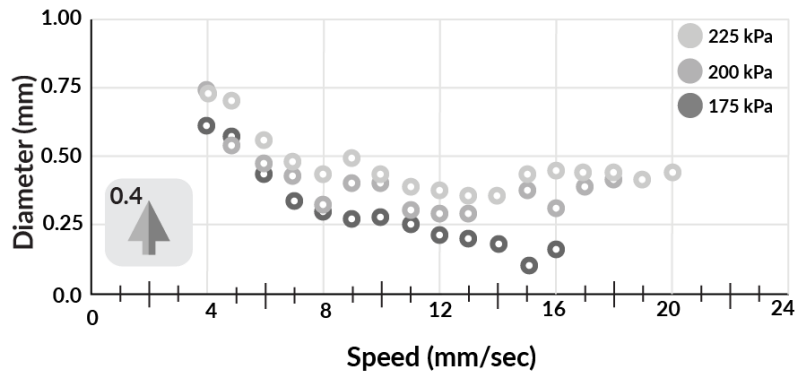

Figure 1. PCL filament thickness dependency on printing speed and pressure when extruded at 200°C.
- Set layer height at 80% of the nozzle diameter. Start with a printing temperature of 200°C and the pressures shown in Figure 1.